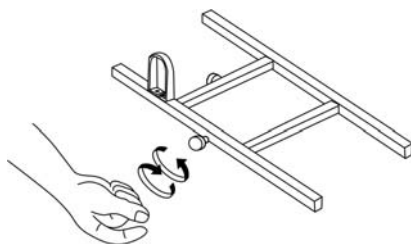

Figure 5
4. Tighten the threaded knobs found on the tank tray (Figure. 5) so that the LP tank cannot move from side to side. Do not remove plastic cap from end of threaded section.